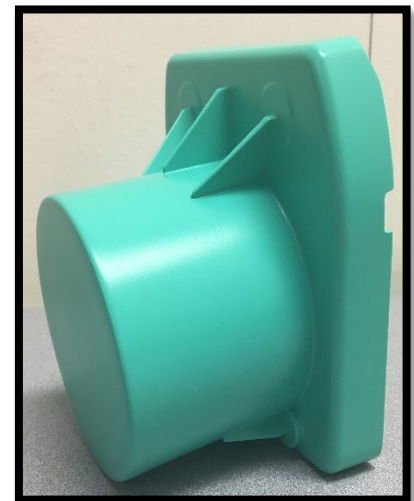

Figure 27. Stainless Steel Collimator
- DETECTIVE-X-ACC-COL-ST 4mm Stainless Steel (colored green; see Figure 27)